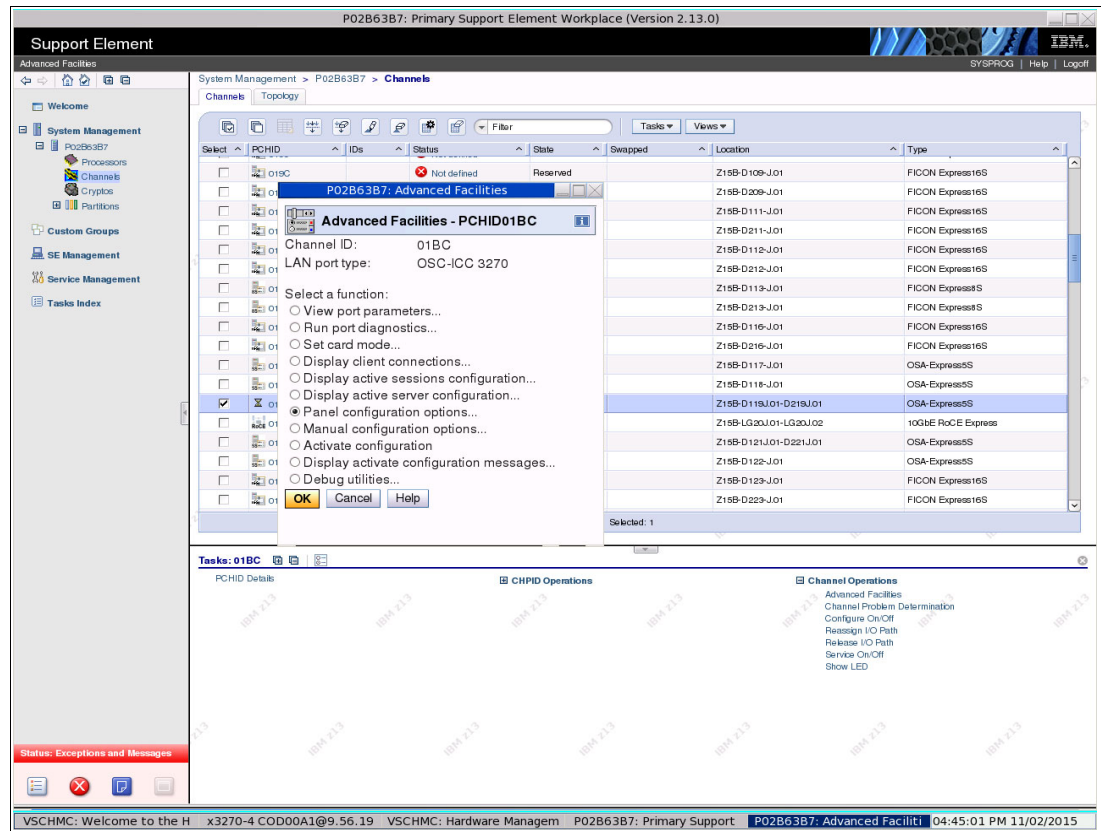

Figure 7-6 Advanced Facility panel of PCHID 1BC
4. In this panel, we select **Panel configuration options...** and then, **OK**, as shown in Figure 7-6.